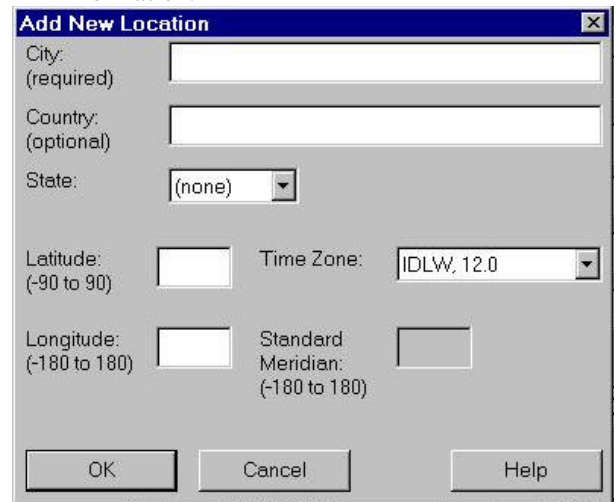

Figure 9. The Add New Location Dialog box
51. In the "Add New Location" dialog box (Figure 9), specify a city name. Country and state are optional fields. Then input the latitude and longitude of the location you want to simulate and pick a corresponding time zone from the pull down menu. Be aware of whether your time zone is observing Daylight Saving Time. If not listed, pick “other” from the list and then enter the Standard Meridian for that location. See the *Desktop Radiance* User Manual for more information.
55. The Simulation Manager dialog box (Figure 9) should appear momentarily. Wait for the interactive window to appear. This can take a few seconds for small scenes or up ten minutes for very complex scenes.